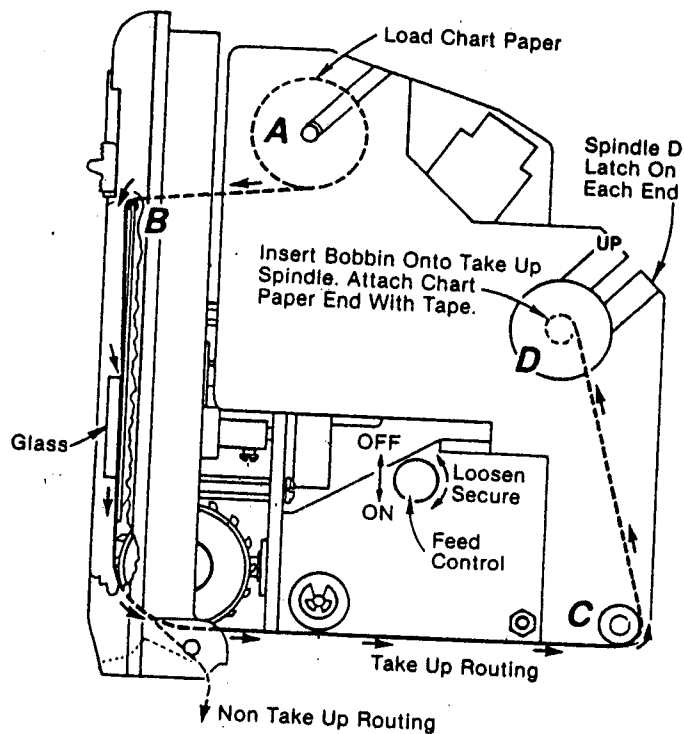

Fig. 9
3. To insert or remove chart paper, place recorder in horizontal position and press the release button in the direction shown in fig. 10. Raise the recorder mechanism to a vertical position until it locks. Remove feed shaft **A** (see fig. 9) and place chart roll on spindle. Remove tape on roll and retain tape for securing chart on take-up spindle **D**. Unroll about 12" to 15" and route paper over top edge of scale plate **B** underneath glass, over the sprocket wheels, to the rear and over the idle roller **C** up to the cardboard bobbin mounted on take-up spindle **D**. Secure edge of chart to bobbin with tape. Make sure the sprocket holes in the paper engage the sprocket wheels. Be sure that feed control is tight and in the right position. The word "on" must be visible. Press in the idle roller extension **C** to allow the recording mechanism to move back down into case and lock into position. Replace cover by positioning the "U" bend onto the plastic projections and snap front down. Make sure chart paper is not binding with the cover in place. For "non-take-up" recording, route chart through bottom slot as shown in fig. 9.